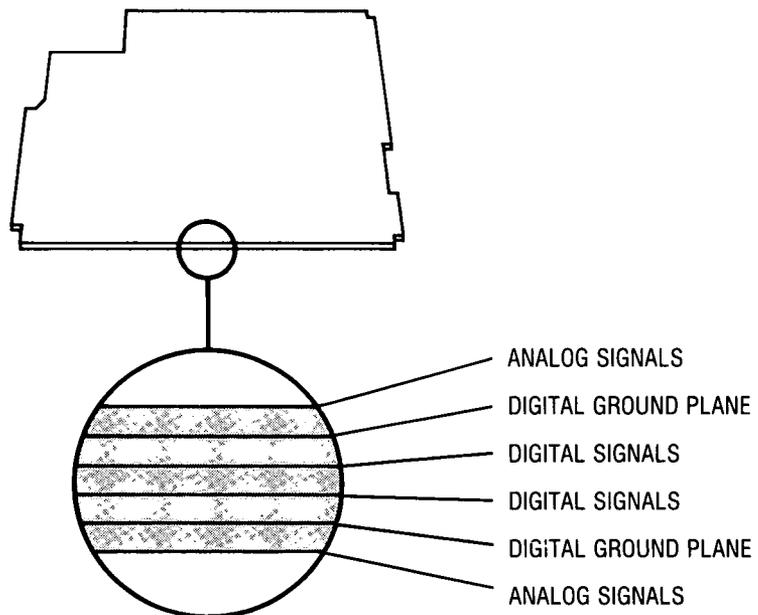

Figure E-1. A62 Motherboard Cross Section
- **GND PLANE** – Refer to Figure E-1.
As shown in Figure E-1, analog and digital trace layers are separated by ground plane layers. These layers were designed to disperse any digital noise into the ground planes and act as an electrostatic shield between the digital and analog signal traces. The ground planes extend to each edge of the motherboard and are connected to STAR GND. This provides isolation between analog and digital grounds while reducing signal crosstalk.